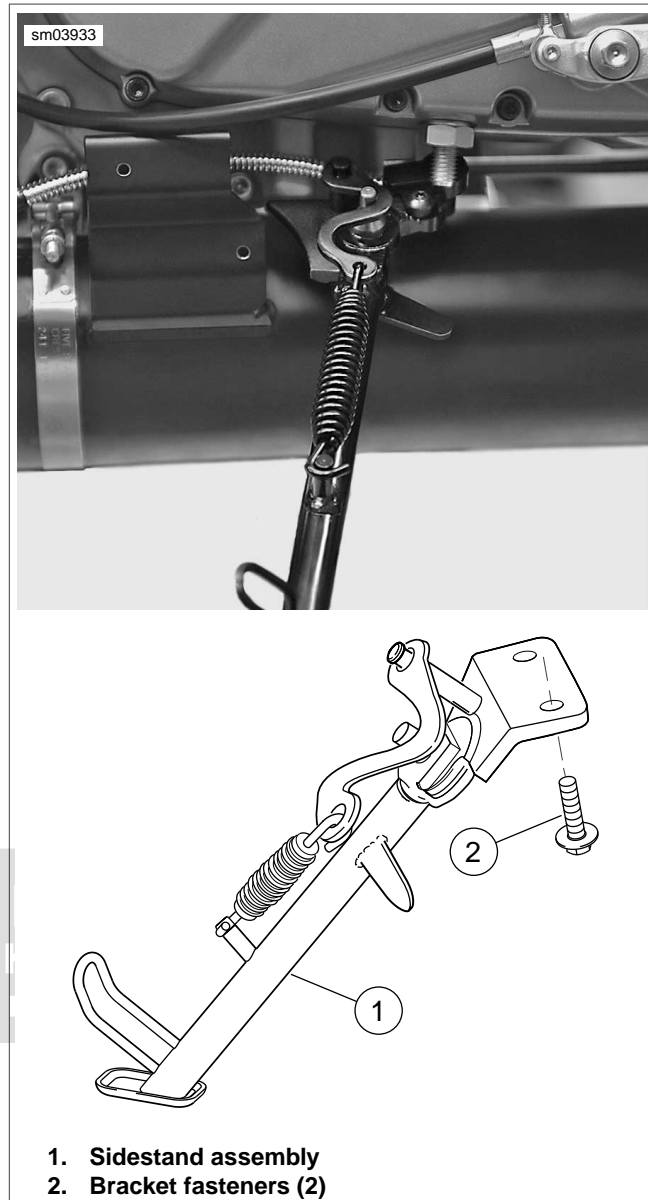

Figure 3-11. Sidestand Assembly (Extended)
- 32. See Figure 3-11. Remove two fasteners (2) and remove sidestand assembly.